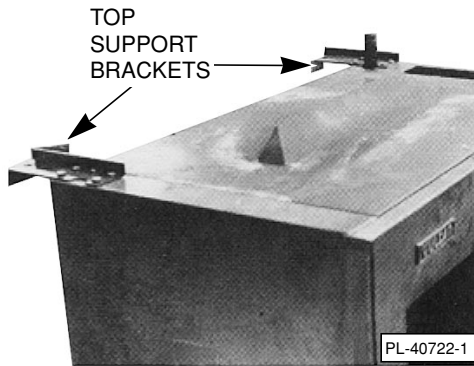

Fig. 5
2. Assemble two support brackets to the top rear corners of the broiler. Remove four bolts on each corner; install brackets under bolts (Fig. 5).